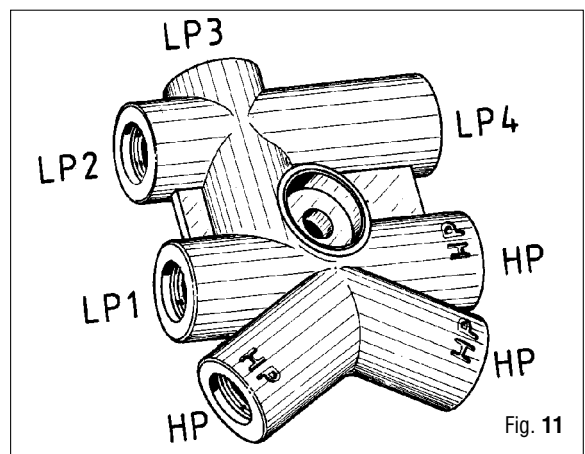

Fig. 11
- 82. Position 7-way manifold system on a surface, being HP writing visible (the two HP ports diagonally marked must be on the bottom). (Fig. 11)
- 83. Put two O-Rings (52) on plugs (53).
- 84. Screw plugs (53) to HP2 and HP3 ports on the bottom, using a 4-mm Allen wrench.
- 85. Position O-Ring (19) on plug (20).
- 86. Screw plug (20) in LP3 threaded port, using a 4-mm Allen wrench.
- 87. Place O-Ring (97) in connector seat (8), and screw connector in LP4 threaded port, using a 17-mm wrench (B-17).
- 88. Position O-Ring (52) on connector (2), and screw connector (2) in HP1 threaded port, using a 14-mm wrench (B-18).